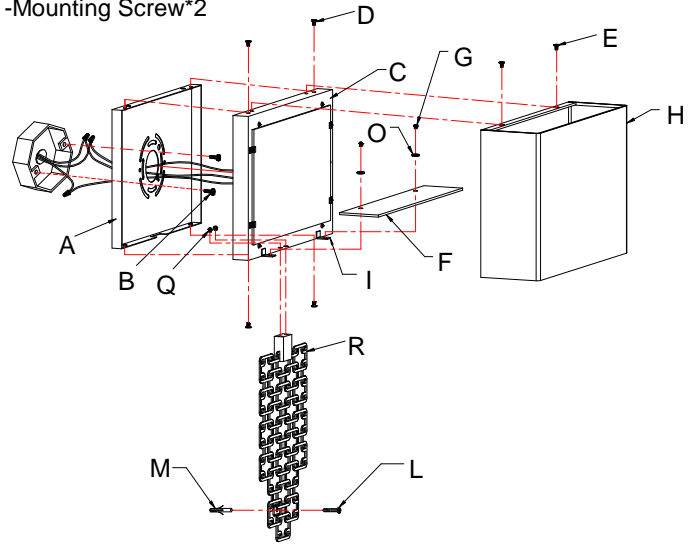

Fig. 2
CONNECTING THE WIRES (FIG. 2)
7. At this point, connect the electrical wires as shown in Fig. 2, making sure that all wire connectors are secured. If your outlet has a ground wire (green or bare copper), connect the fixtures ground wire to it. Otherwise, connect the fixture ground wire directly to the mounting plate (A) using the green screw provided. After wires are connected, tuck them carefully inside the junction box.